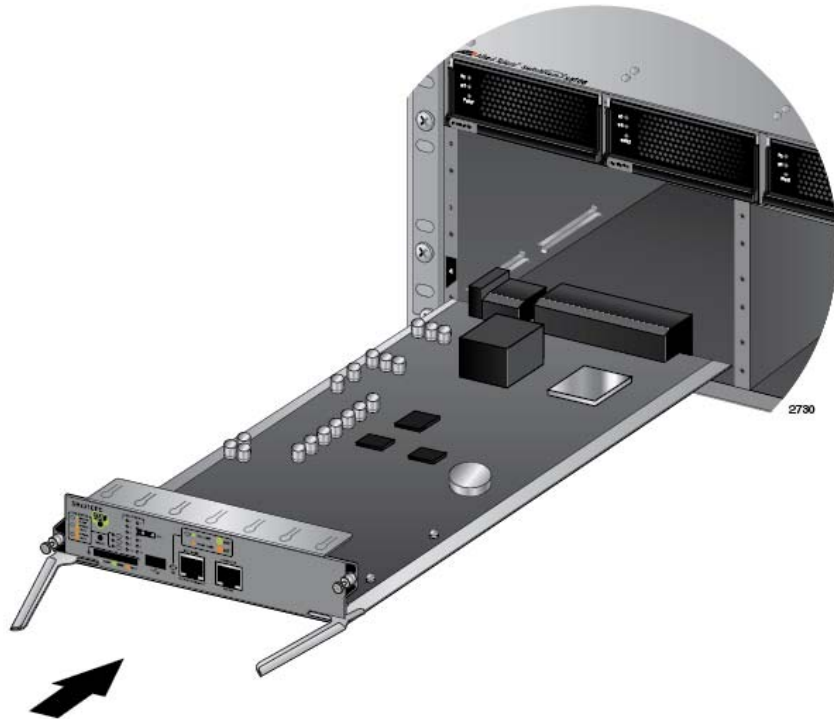

Figure 73. Aligning the AT-SBx31CFC Card in the Chassis Slot
6. Align the edges of the AT-SBx31CFC Card with the internal chassis card guides in slot 4 or 5 of the AT-SBx3106 Chassis. Figure 73 on page 131 shows the AT-SBx31CFC Card aligned in slot 4.